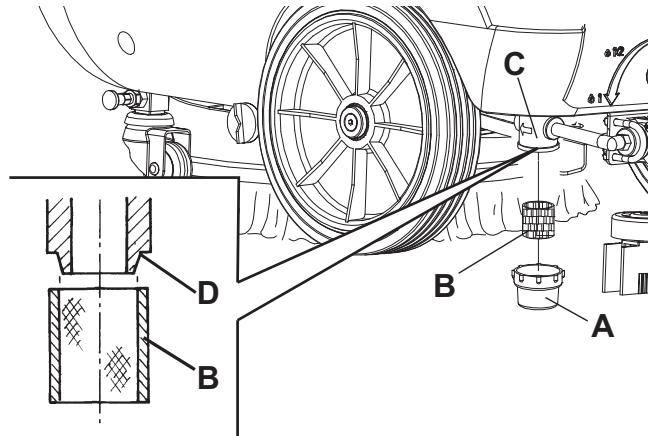

Figure 6
1. Empty the solution tank (27) as shown in the relevant paragraph.
3. Make sure that the power supply cable (21) is disconnected from the electrical mains.
4. Remove the transparent cover (A, Fig. 6), then remove the filter strainer (B). Clean and install them on the support (C).
*The filter strainer (B) must be correctly positioned on the housing (D) of the support (C).*